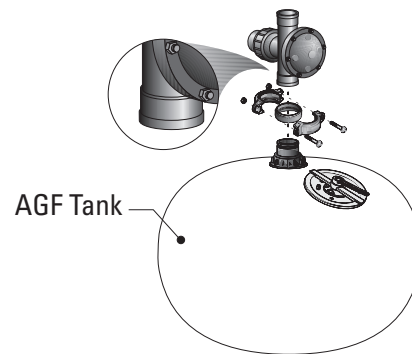

FIGURE 5 - Backflush valve installation
- Verify that the “flow” arrow on the backflush valve points downward towards the filter tank. See Figure 5.